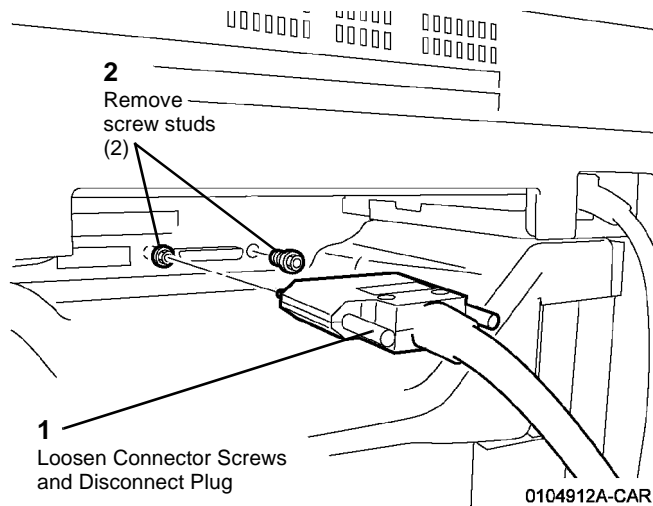

Figure 1 Disconnecting Cable and Removing Screws from IIT
- b. Remove front screws (2), left screws (2), and right screws (2) from IPS Cover (PL 18.3).
4. Disconnect IOT/IIT Cable and remove Screws from IIT (Figure 1).